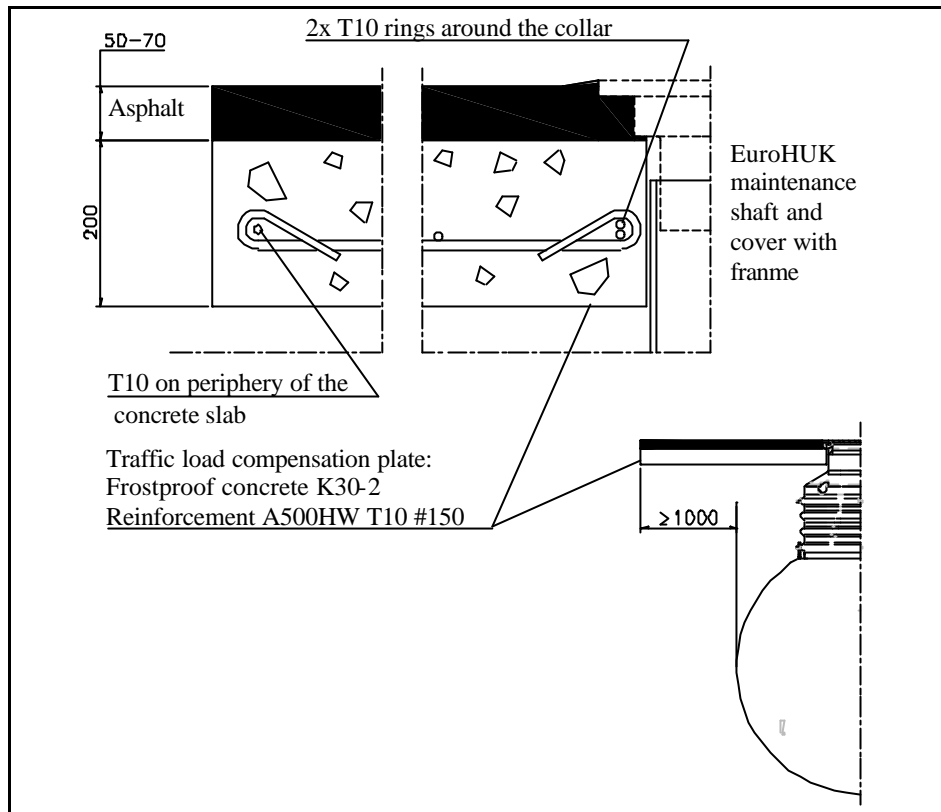

Figure 5. Construction of the load compensation plate.
10. On the area of medium and heavy transport a reinforced concrete plate and an asphalt layer should be laid to compensate the wheel loads (*Figure 5*). Check also the mounting instructions fixed on the body of the sampling shaft.